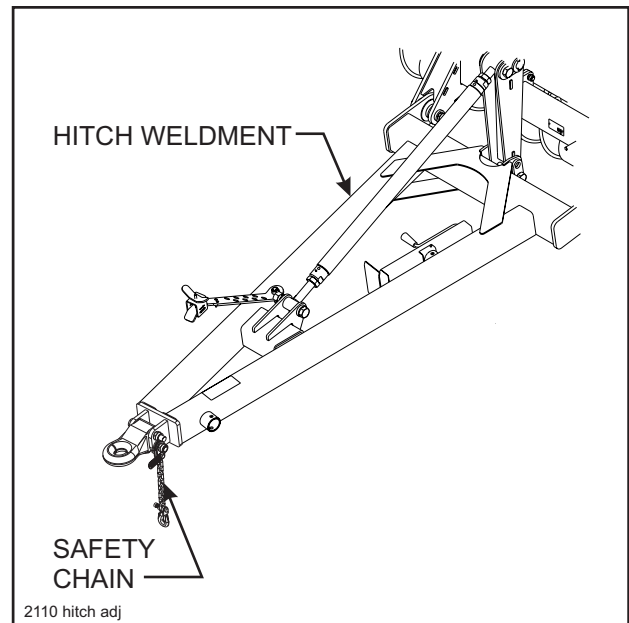

Figure 4-8 Hitch and Safety Chain
- Attach the safety chain to the tractor drawbar (**See Figure 4-8**). Provide only enough slack in the chain for turning. Do not use an intermediate chain support as the attaching point for the chain on the tractor. Do not pull the implement by the safety chain.